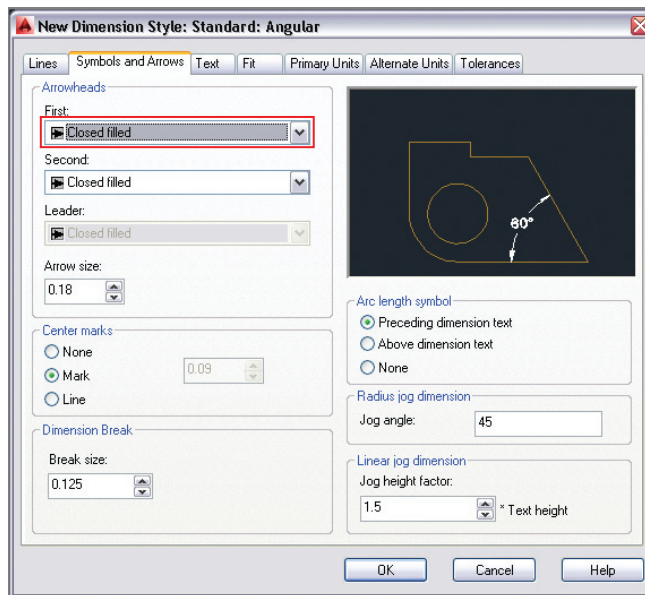

FIGURE 11.8 Customizing the arrowheads in the Angular sub-style
8. The New Dimension Style: Standard: Angular dialog box appears. Select the Symbols And Arrows tab. Change the First arrowhead drop-down to Closed Filled. The Second arrowhead automatically changes to Closed Filled as well (see Figure 11.8). The preview image reveals how the angular dimension will appear. Click OK.